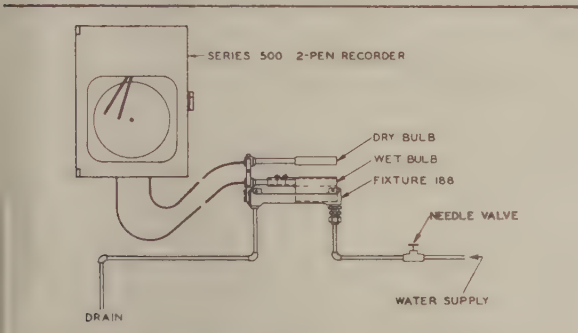

FIGURE 3. FIXTURE 188 SHOWING A COMPLETE CLASS I PSYCHROMETER INSTALLATION
3. Fixture 188 (see Fig. 3). Mount Fixture 188 where the humidity is to be measured. The circulation of the air in the area of measurement should be as great as possible. If good circulation cannot be achieved, it may be necessary to go to forced-air sampling.